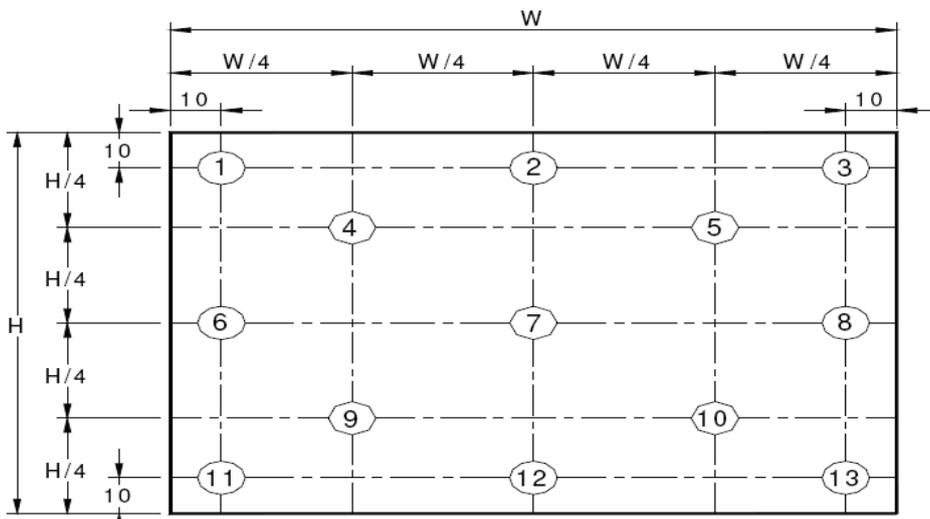
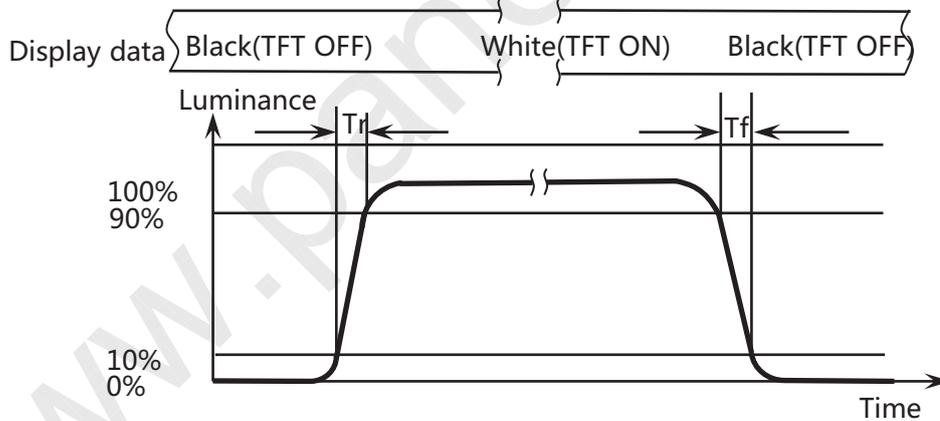

Figure 9. Uniformity Measurement Locations (13 points)
Figure 10. Response Time Testing
<p>Notes :</p> <ol style="list-style-type: none"> Viewing angle is the angle at which the contrast ratio is greater than 10. The viewing angles are determined for the horizontal or 3, 9 o'clock direction and the vertical or 6, 12 o'clock direction with respect to the optical axis which is normal to the LCD surface (see Figure 7). Contrast measurements shall be made at viewing angle of $\Theta=0$ and at the center of the LCD surface. Luminance shall be measured with all pixels in the view field set first to white, then to the dark (black) state . (see Figure 7) Luminance Contrast Ratio (CR) is defined mathematically. $CR = \frac{\text{Luminance when displaying a white raster}}{\text{Luminance when displaying a black raster}}$ Center Luminance of white is defined as luminance values of 5 point average across the LCD surface. Luminance shall be measured with all pixels in the view field set first to white. This measurement shall be taken at the locations shown in Figure 8 for a total of the measurements per display. The White luminance uniformity on LCD surface is then expressed as : $\Delta Y = \text{Minimum Luminance of 5(or 13) points} / \text{Maximum Luminance of 5(or 13) points.}$(see Figure 8 and Figure 9). The color chromaticity coordinates specified in Table 5 shall be calculated from the spectral data measured with all pixels first in red, green, blue and white. Measurements shall be made at the center of the panel. The electro-optical response time measurements shall be made as Figure 10 by switching the “data” input signal ON and OFF. The times needed for the luminance to change from 10% to 90% is T_r, and 90% to 10% is T_r. Cross-Talk of one area of the LCD surface by another shall be measured by comparing the luminance (YA) of a 25mm diameter area, with all display pixels set to a gray level, to the luminance (YB) of that same area when any adjacent area is driven dark. (See Figure 11).
The White luminance uniformity on LCD surface is then expressed as : $\Delta Y5$ = Minimum Luminance of five points / Maximum Luminance of five points (see Figure 8) , $\Delta Y13$ = Minimum Luminance of 13 points /Maximum Luminance of 13 points (see Figure 9).
The electro-optical response time measurements shall be made as shown in Figure 10 by switching the “data” input signal ON and OFF. T_r : The luminance to change from 10% to 90% , T_f : The luminance to change from 90% to 10% .